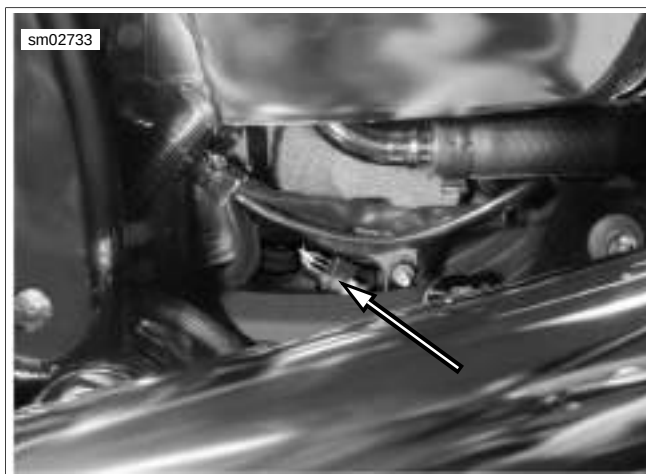

Figure 7-80. Vehicle Speed Sensor
14. See Figure 7-80. Connect vehicle speed sensor connector [65].